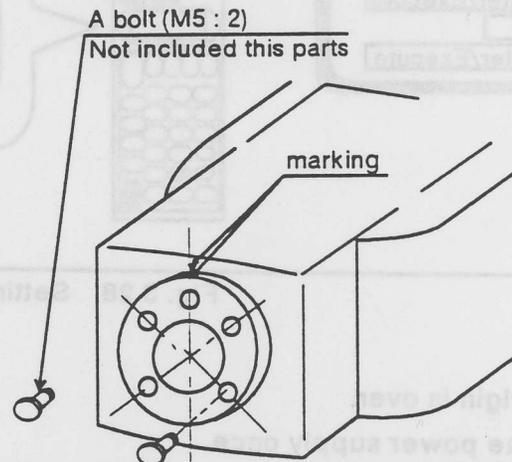
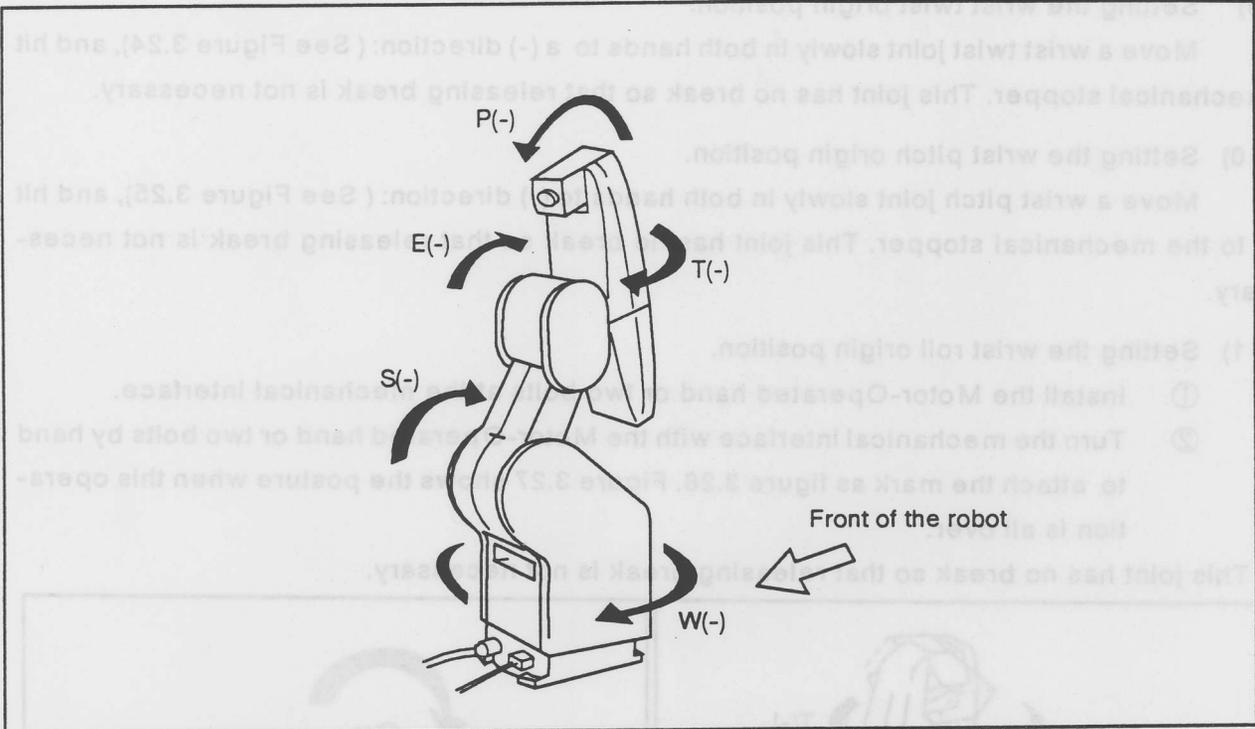

Fig. 3.26 Setting the origin position: writ roll
Fig. 3.27 Origin Pose of robot arm
(11) Setting the wrist roll origin position.
- ① Install the Motor-Operated hand or two bolts at the mechanical interface.
- ② Turn the mechanical interface with the Motor-Operated hand or two bolts by hand to attach the mark as figure 3.26. Figure 3.27 shows the posture when this operation is all over.